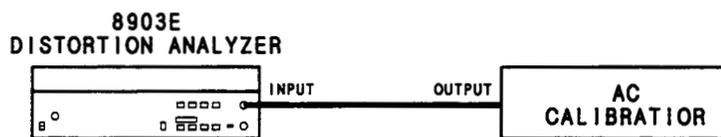

Figure 5-2. High-Input Flatness Adjustment Test Setup
2. Connect the equipment as shown in Figure 5-2.